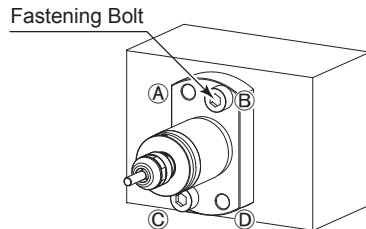

Fig. 42
- ③ Secure the motor spindle through the counter-sunk holes (2 locations : ① and ④ / ② and ③ ) on the flange using bolts as shown in Fig. 14, Fig. 15, Fig. 16 and Fig. 17. Refer to table 4 and Fig. 42 (For BMF-319 / BMF-320 / BMF-322 / BMF-325).